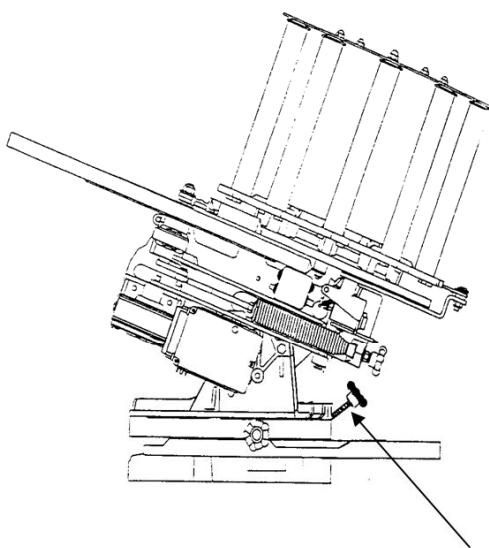

FIG: 3A
8. At the rear of the trap base plate are three "cut-outs" (0 - 11 - 22). Move the trap so that the " 0 " cut-out is in line with the Black Turn-screw protruding from the 285PC base. Push the Black Turn-screw up into its locked position and screw it down thus holding the trap secure. (See Fig. 3a & 3b)